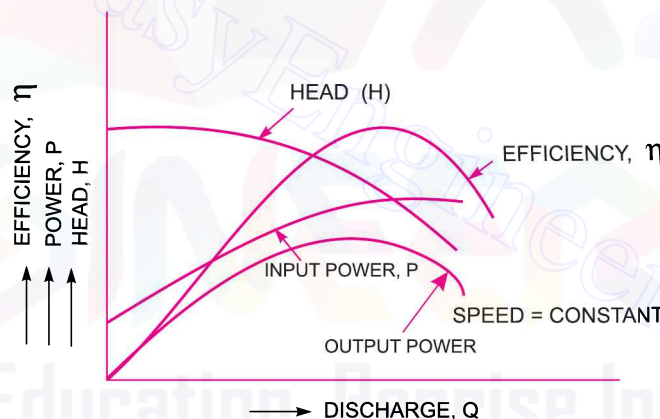

Fig. 19.15 Operating characteristic curves of a pump.
**19.10.2 Operating Characteristic Curves.** If the speed is kept constant, the variation of manometric head, power and efficiency with respect to discharge gives the operating characteristics of the pump. Fig. 19.15 shows the operating characteristic curves of a pump.